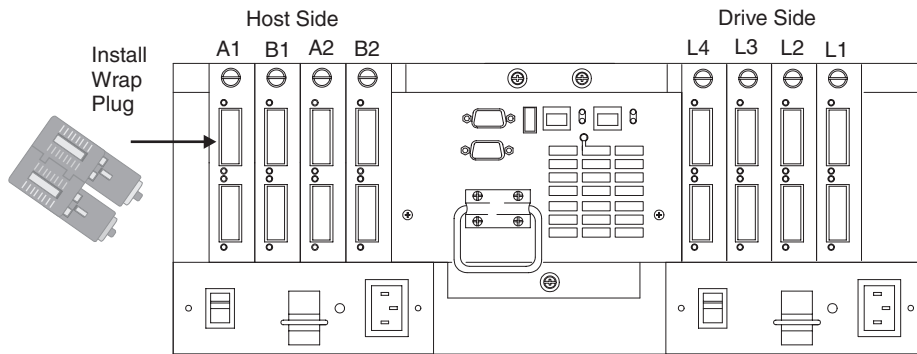

Figure 130. Install wrap plug to GBIC in mini hub on controller A
- b. For a Type 3552 or 1742 controller, install a wrap plug to the GBIC in the mini hub on controller A. See Figure 130 on page 304.